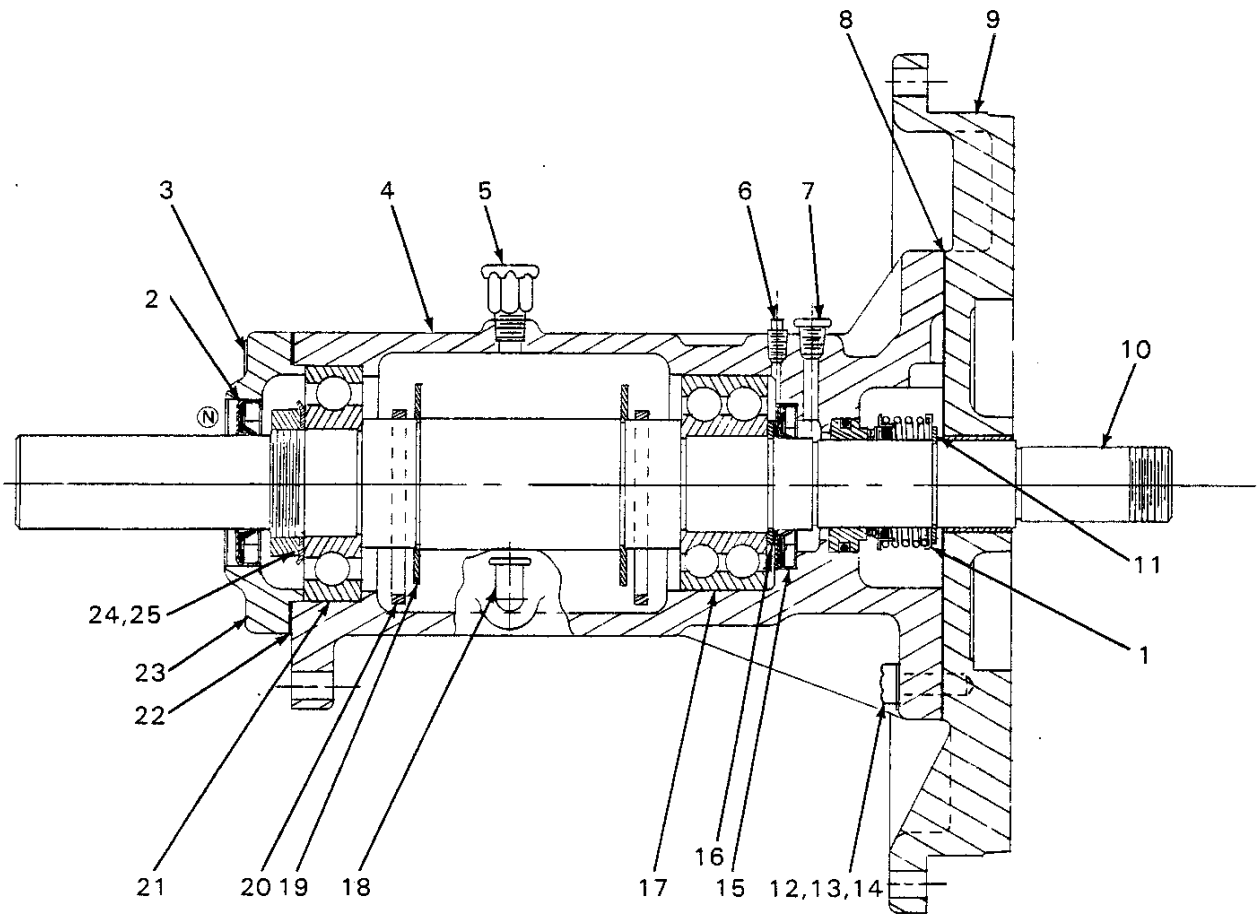

Figure 2. R-12948-01 Bearing Housing Assembly
This pump requires little service due to its rugged, minimum-maintenance design. If it becomes necessary to inspect or replace components in and adjacent to the rotating assembly, however, follow these instructions, which are keyed to the sectional views (see figure 1 and figure 2) and the accompanying parts lists.
Slide the impeller off the shaft (10, figure 2).
To remove the seal assembly (1, figure 2), remove the snap ring (11). Use caution when removing the snap ring from the shaft; tension on the seal spring will be released as the snap ring is removed.